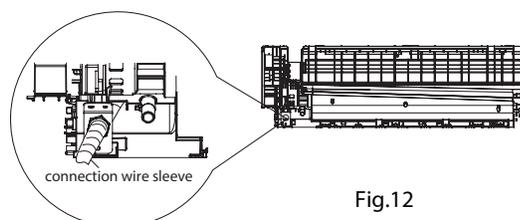

Fig.12
2. Fix the wire crossing board on connection wire sleeve at the bottom case; let the connection wire sleeve go through the wire crossing hole at the back of indoor unit, and then pull it out from the front.(As show in Fig.12)